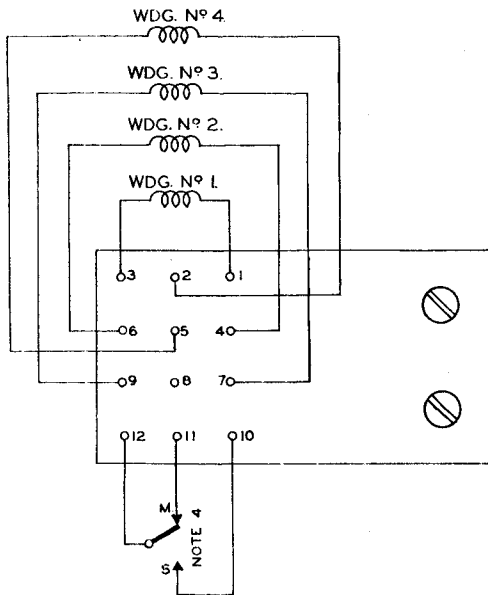

FIG. 1. RELAYS POLARIZED N° 2B/... AND 3B/...
1. FIGS 1 & 2 SHOW THE MAXIMUM NUMBER OF WINDINGS. FOR WINDING OF ANY PARTICULAR RELAY SEE APPROPRIATE RELAY SHEET. CONNEXIONS ARE SHOWN AS SEEN FROM REAR OF THE MOUNTING.